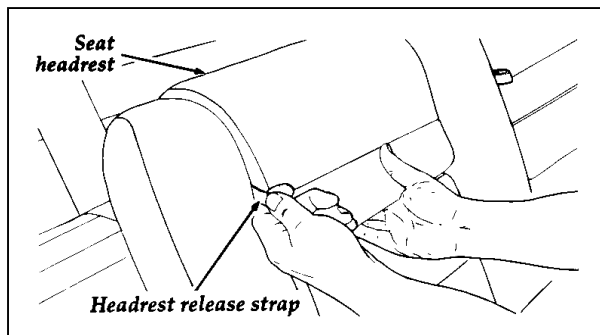

Figure 1
1. Pull the headrest release strap and grasp the headrest as shown in Figure 1. Then release the strap and rotate the headrest fully until the latch "clicks" in the full up position.